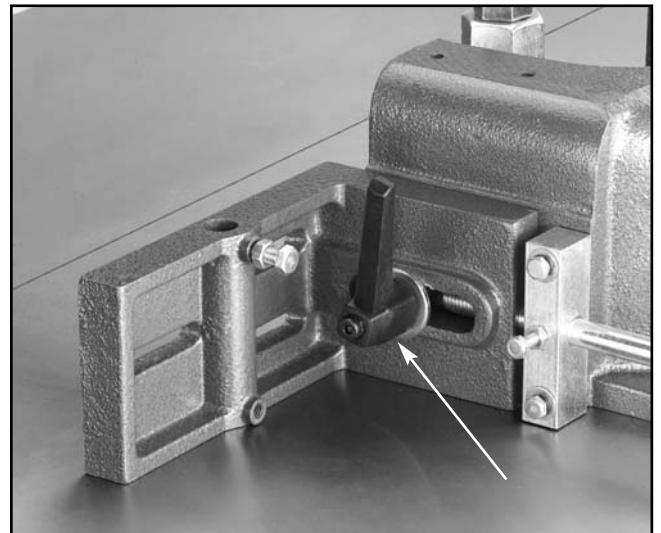

Figure 16. Adjustable handle.
2. Insert the adjustable handle (**Figure 16**) into the fence bracket, and thread it into the guard body.